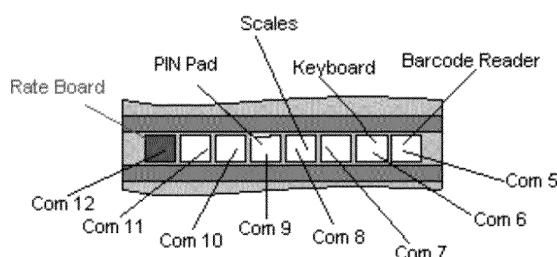

Figure 17
- 2) To connect the Segment 3 cable to the Counter Position, take the segment 3 cable and connect the RJ12 plug to **COM12** on the Specialix card at the rear of the base unit (See figure 17) Ensure that this plug ‘clicks’ home securely.